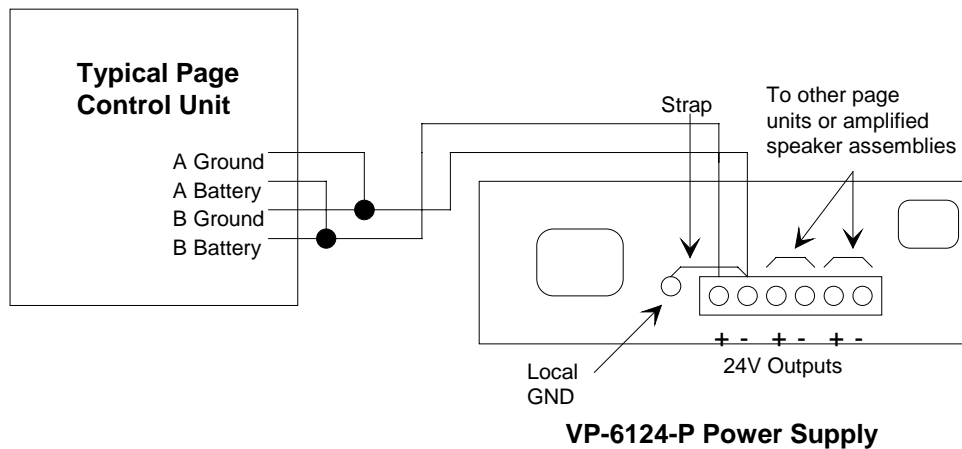

Figure 1
- Connections to Valcom page control units are shown in Figure 1.
**NOTE: Each 24 VDC screw terminal is fused by a 2 amp polyswitch automatic type fuse. Therefore, when connecting equipment to this power supply, the load should be distributed between the (3) 2 amp output terminals and each load should not exceed 2 amps.**